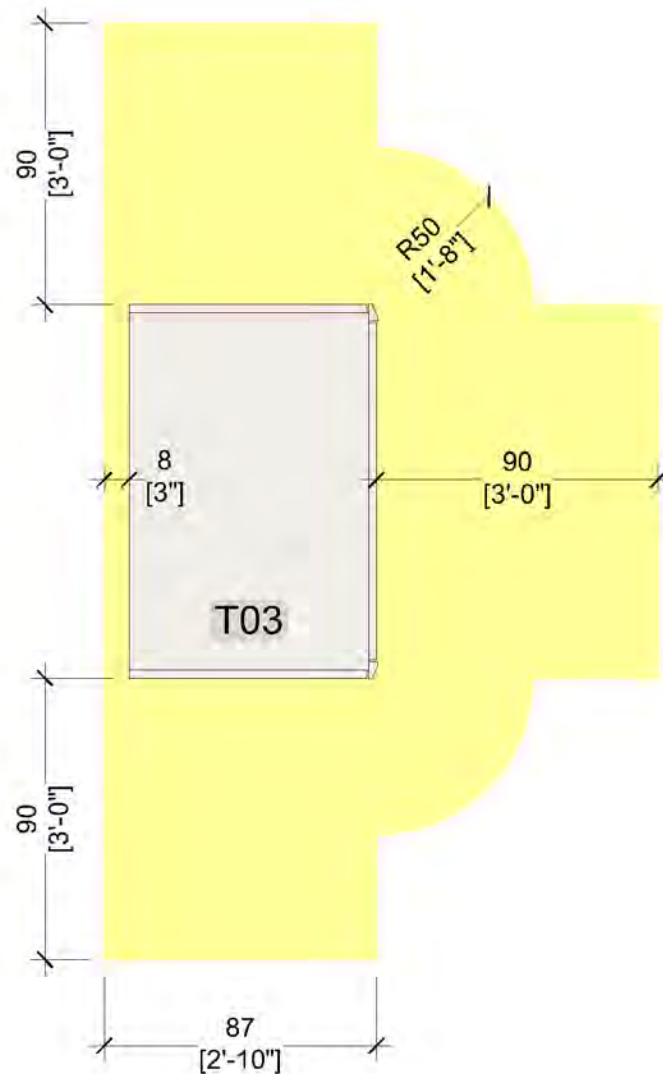
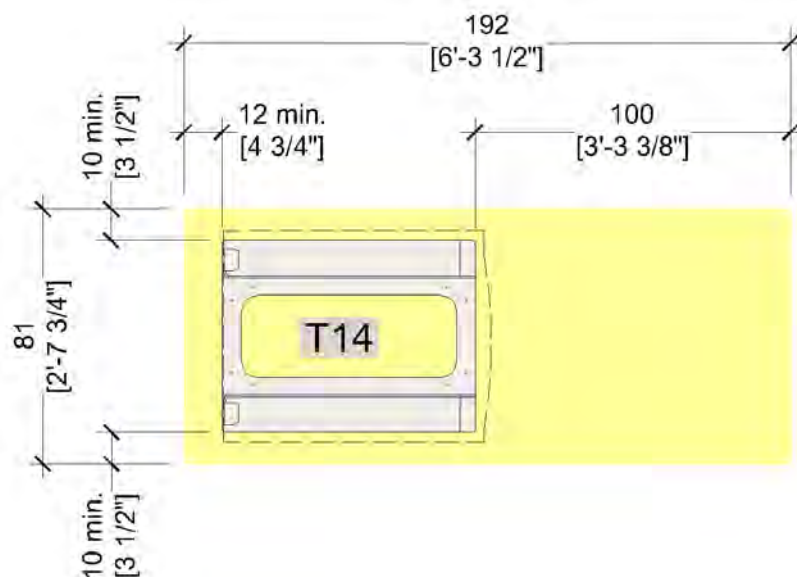

Figure 3-4 Modulator Service Clearances
Figure 3-5 Console Cabinet Service Clearances
The area highlighted in Figure 3-4 and Figure 3-5 provides the operational, cabling, and service clearances required for the Modulator and the Console Cabinet. Refer to 2.3 Modulator and 2.4 Console Cabinet for more information.
- See Figure 3-5 for Console Cabinet Clearance requirements.